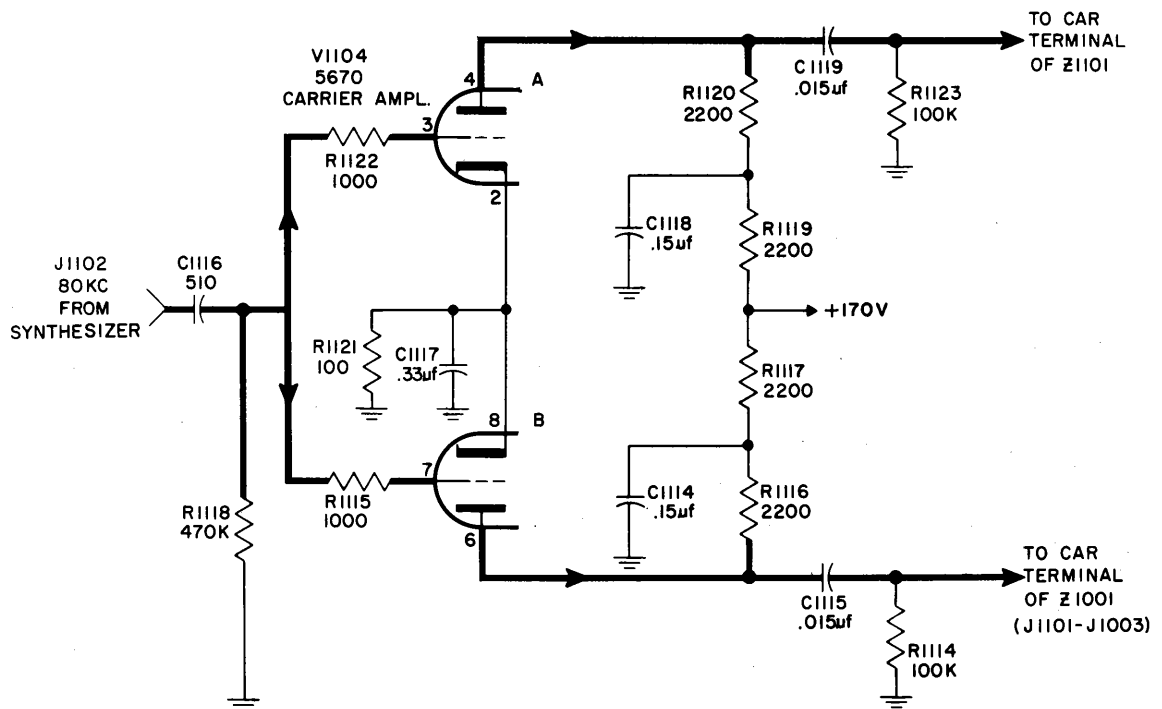

Figure 4-33. Carrier Amplifier V1104, Simplified Schematic Diagram
d. CARRIER AMPLIFIER V1104. (See figure 4-33.)—Carrier Amplifier V1104 is a dual-triode tube, the paralleled grids of which receive their 80 kc input from the synthesizer section via J1102 and C1116. The amplified output of triode A is developed across plate load resistor R1120 and applied via capacitor C1119 to CAR terminal of balanced ring demodulator Z1101 of the LSB detector-amplifier. The amplified output of triode B is developed across plate load resistor R1116 and applied to balanced-ring demodulator Z1001 of the USB detector-amplifier by way of coupling capacitor C1115 and connectors J1101 and J1003.